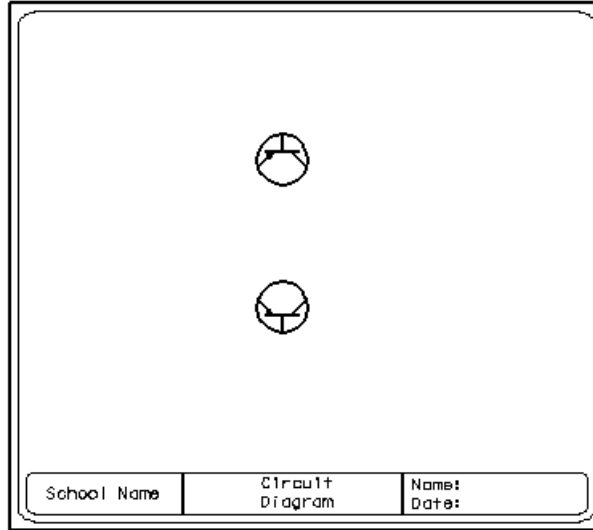

Figure P11-5 Two copies of the PNP cell
STEP 5: Use the Mirror tool with the **Mirror About Horizontal** option selected and the **Make Copy** check box turned ON to create a mirror image copy of the just-placed PNP cell below the original, as shown in Figure P11-5.